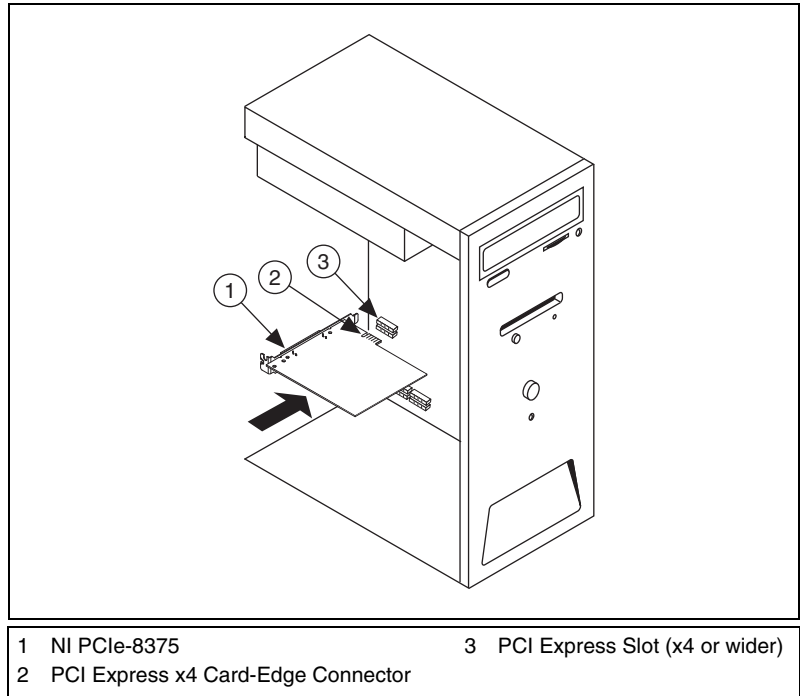

Figure 2-1. Installing the NI PCIe-8375
6. Line up the NI PCIe-8375 with the slot on the back panel. Slowly lower the NI PCIe-8375 until its card-edge connector is resting on the expansion slot receptacle. Using slow, evenly distributed pressure, press the NI PCIe-8375 straight down until it seats in the expansion slot, as shown in Figure 2-1.